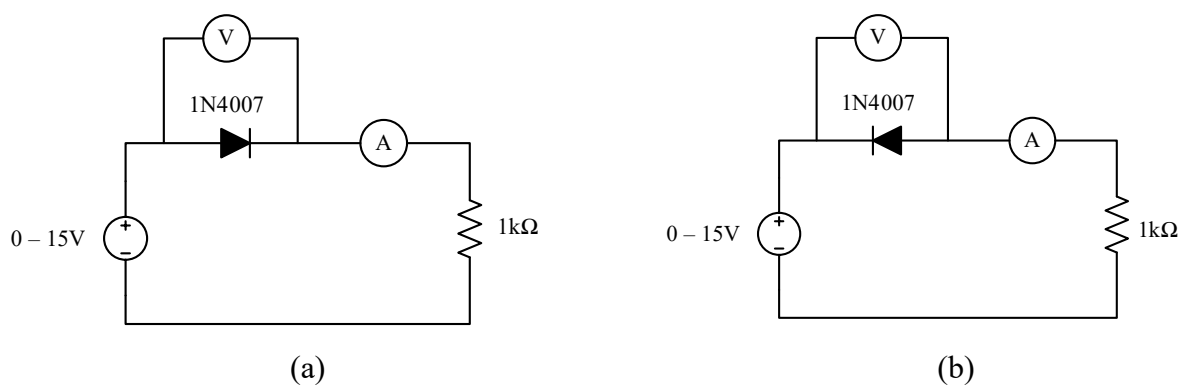

Fig. 1.2. Circuit diagram for determining I-V characteristics at (a) forward bias and (b) reverse bias condition of a p-n junction diode.
1. Connect the circuit according to Fig.1.2 (a) such that the p-terminal connects to the positive and n-terminal to the negative of the power supply.
4. Next, connect the circuit according to Fig.1.2 (b) so that the p-terminal is connected to the negative and n-terminal to the positive of the power supply.
7. Plot Voltage (V) vs. Current (I) on a graph for both forward and reverse bias.